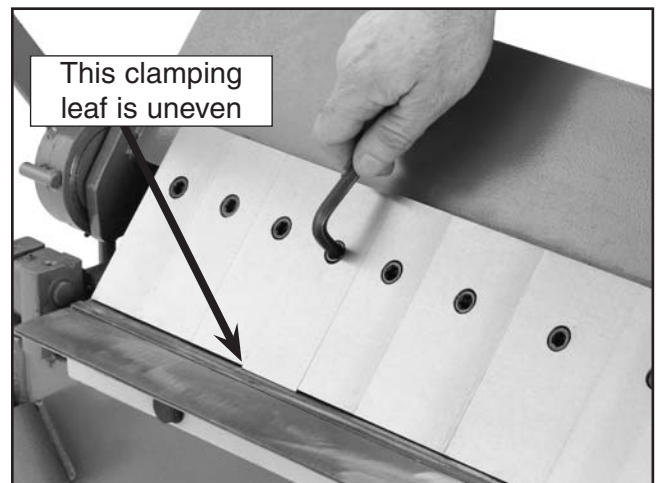

Figure 12. Look closely along the edges of all the clamping leaves.
2. Look closely along the edge of each finger to determine if any are out of adjustment as shown in **Figure 12**.